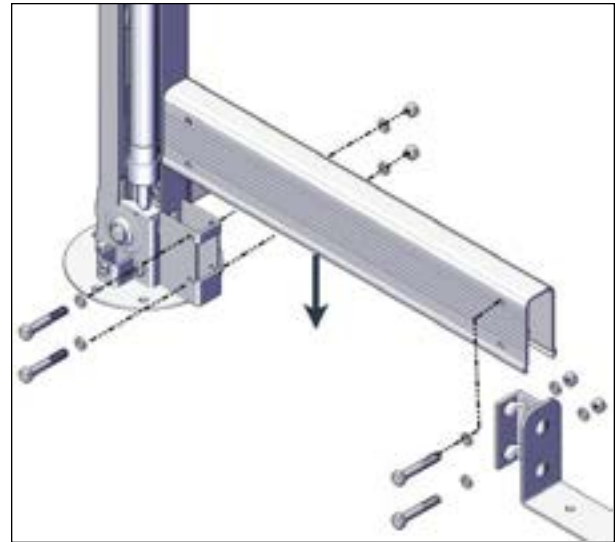

FIGURE 56: SHORT U-SHAPE INSTALLATION
14. Fasten a short U-frame to each end of the spa entrance U-frame link and then install the entire assembly between the front posts. Use four hexagonal 5/16"-18 x 2" bolts, four 5/16"-18 nylon-insert lock nuts and eight 5/16" washers (4 by side). Use 1/2" (13 mm) socket wrench and spanner see Figure 56.